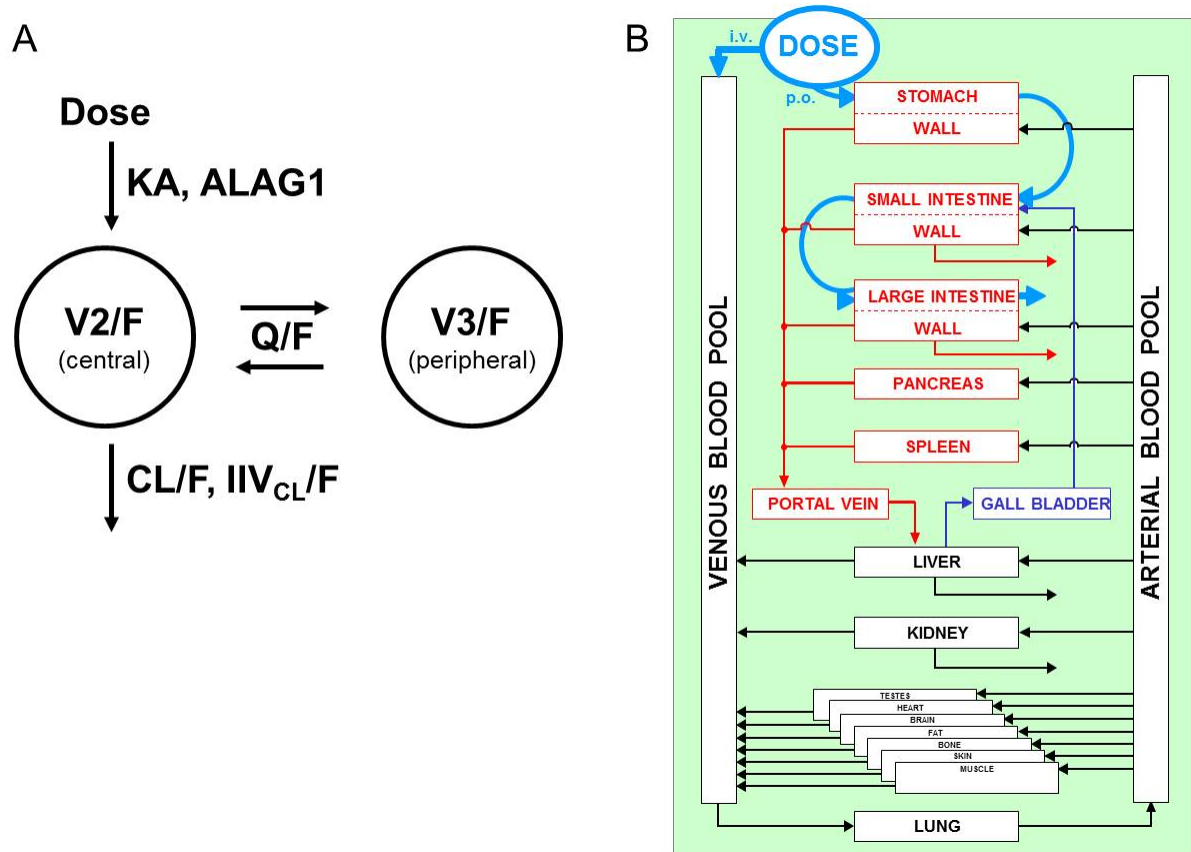

Figure 2.1. Structure of compartmental PK model (A) and PBPK model (B) (taken from [39] and [92]).
The site of action of a pharmacological substance might be restricted to certain tissues or cells, which is why a quantitative estimate of the amount of administered substance that is available at the site of action is required. This question is the subject of pharmacokinetics and different modeling techniques are well-established in pharmaceutical research to support its investigation. So far, the most widely used approach is to establish descriptive and comparatively simple compartmental PK models that can be well identified based on available data (Figure 2.1-A). Often these models are applied to population PK data using nonlinear mixed-effect techniques (NLME), e.g. to quantify sources of population variability or covariate effects. Besides PK, such models may also include a description of a compound's effects (PD), for example, in the form of a simple hyperbolic or sigmoid concentration-effect relation (Michaelis-Menten, Hill, or Emax type).
In contrast to the rather phenomenological consideration of drug PK in compartmental models, physiologically-based pharmacokinetic (PBPK) models aim for a detailed representation of physiological processes (Figure 2.1-B) as will be summarized in the following. Consequently, PBPK-modeling is based on the mathematical description of physical and physiological processes and in the framework of PBPK modeling a genuine simulation of the pharmacokinetic behavior using this description is performed. Also, the pharmacodynamics can be represented in more mechanistic detail as briefly discussed in Chapter 6, *Modeling Concepts - PD and Reaction Network Modeling*. A good starting point for further reading can be found in [65].
The general idea, introduced as early as 1924 [31], is to divide the body into physiologically relevant compartments, essentially important organs, and to set up a mass balance equation for each compartment describing the fate of the substance within that compartment [76]. In PK-Sim® a physiological framework model is provided where the mammalian body is divided into containers representing relevant organs or tissues as well as arterial and venous blood pools connecting the different organs through the blood flow (see also Figure 2.1-B). Organs are further sub-divided into several sub-compartments that describe essentially the vascular space divided into plasma and (red) blood cells as well as the avascular space divided into interstitial and cellular space. Such a model framework corresponds to a detailed compartmental model and provides the structural basis to describe the behavior of a substance.